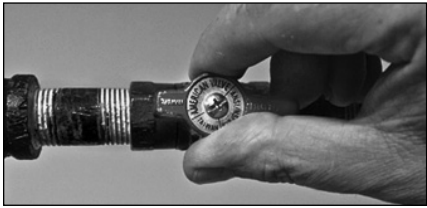

Figure 29 - Gas valve in “on” position
- 2 Make sure the manual gas valve for the water heater’s supply line is OFF. See Figure 29.
- 7 Make sure the manual gas valve for the water heater’s supply line is ON. See Figure 29.